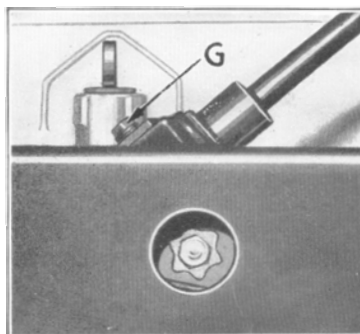

Figure 49
LUBRICATION — Every 1,000 miles the oil level in the steering gear housing should be checked by removing plug (G), Fig. 49. If level is low refill to bottom of hole with S.A.E. 90 E.P. gear oil, summer or winter. Be sure plug is securely tightened.